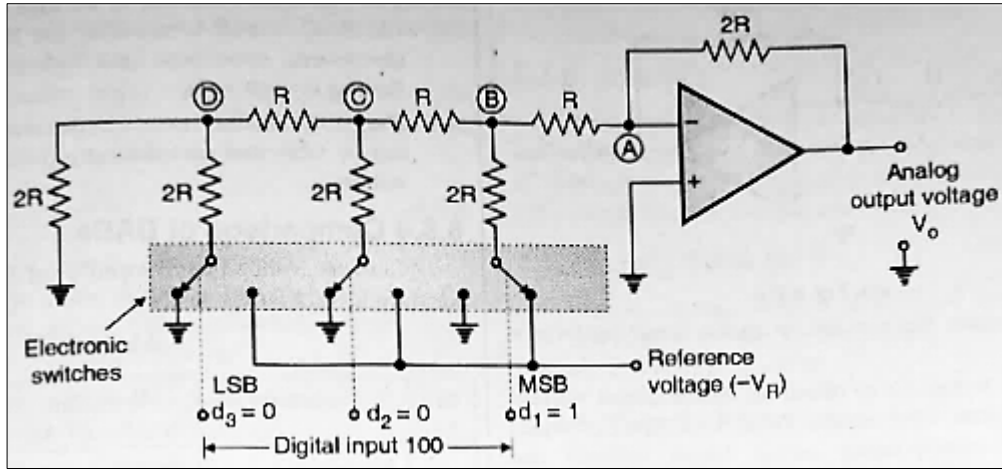

Fig.2 : R-2R ladder DAC
The circuit diagram for R-2R ladder type DAC is shown in fig.2 It shows that only two values of resistors are required namely  $R \Omega$  and  $2 R \Omega$ .
This method is therefore suitable for the realization of Integrated Circuits (IC). The value of R in Fig.2 can be anywhere between  $2.5 k \Omega$  to  $10 k \Omega$  but it should not be less than  $2.5k \Omega$ .